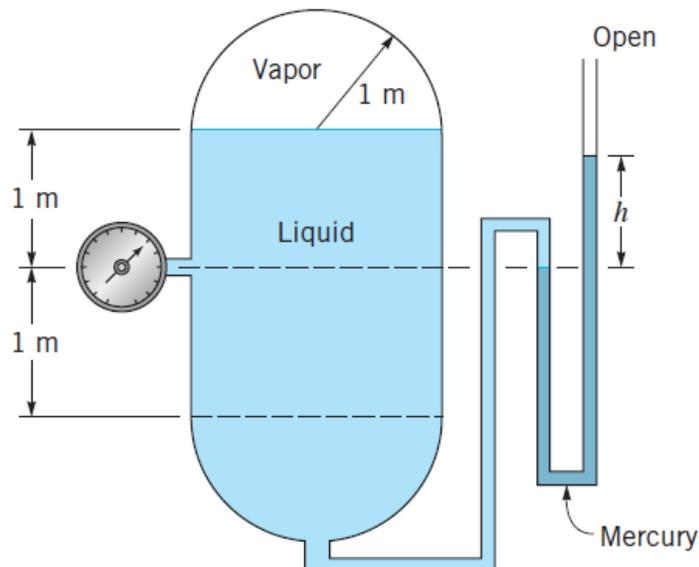

Fig. 5
6. The cylindrical tank with hemispherical ends shown in Fig. 5 contains a volatile liquid and its vapor. The liquid density is ρ and its vapor density is negligible. The pressure in the vapor is 120 kPa (abs) , and the atmospheric pressure is 101 kPa (abs) . Determine: (a) the gage pressure reading on the pressure gage; and (b) the height, h , of the mercury manometer.